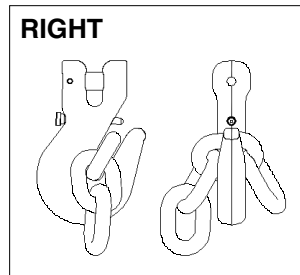

Figure 1
- Always make sure internal spring will force the pin latch forward closing throat opening of grab hook (See Figure 1).
- Always make sure hook supports the load. The pin latch must never support the load (See Figure 1, 2, 3 and 4).